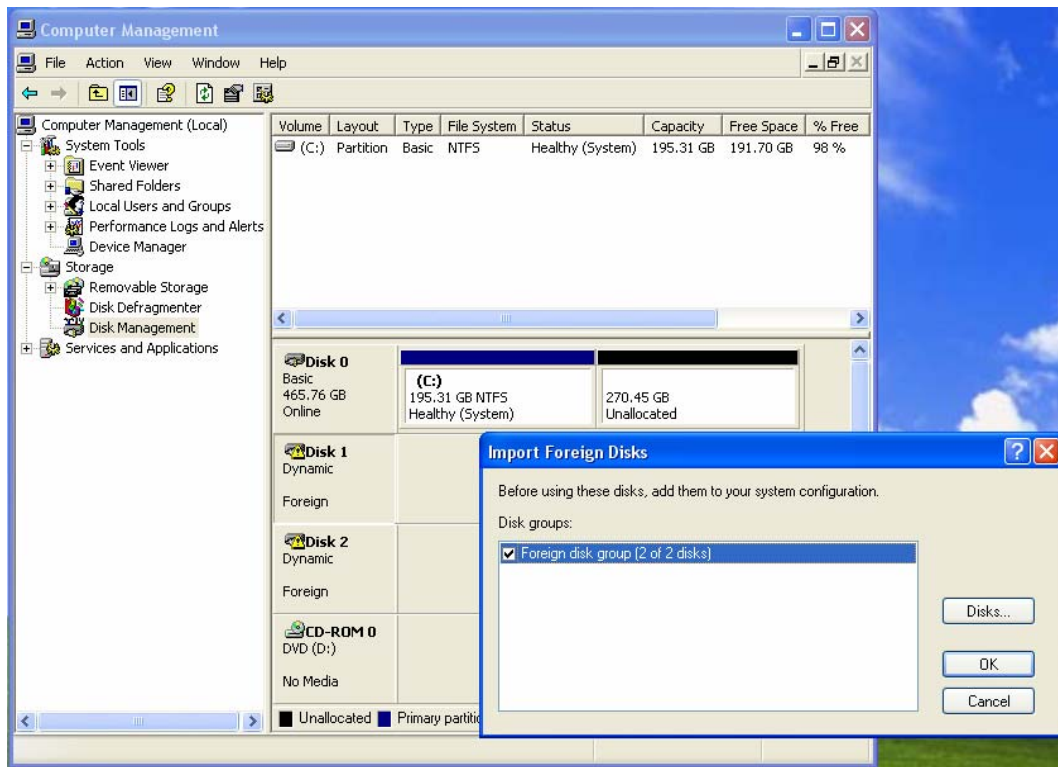

Figure 5-23
- 10) We now need to import **Disk 1** and **2** into Windows® XP using the following steps. Right-click on the **Disk 1** annotation and then select the **Import Foreign Disks** option, resulting in the **Import Foreign Disks** dialog as illustrated in Figure 5-23.